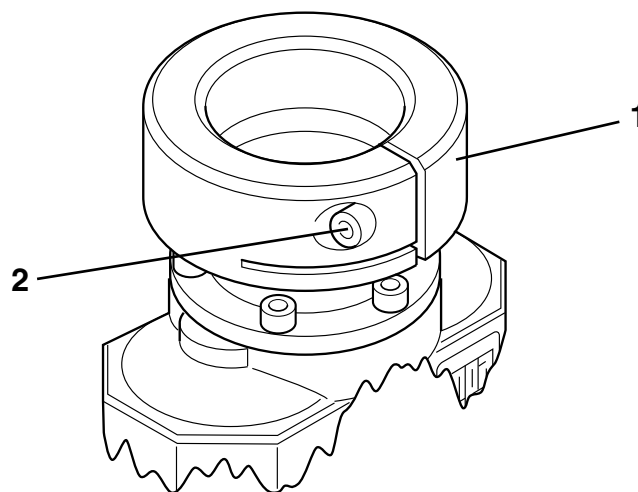

Fig. 4
- The head is secured and connected to the tool machine by means of a dedicated flange **1** (Fig. 4).
- To take the head off the tool machine, loosen the screw **2** of the connecting flange (see Fig. 4). Carrying out this operation, make sure to support the weight of the head: no safety locking device has been fitted and it the head could fall off, with consequent material damage and personal injury.